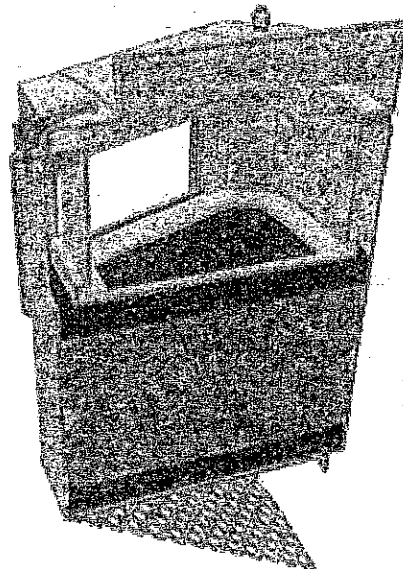

Fig.8 Cutaway view of the Filter Module
4. If the standing water level in the sump is above the base of the Filter Modules (see Fig.8), tug the Pull Chain(s) to release the Drain Down Filter plug(s). Allow the excess water to drain out of the chamber.
13. Contact Hydro International at (800) 848-2706 to discuss any irregularities noted during cleanout.